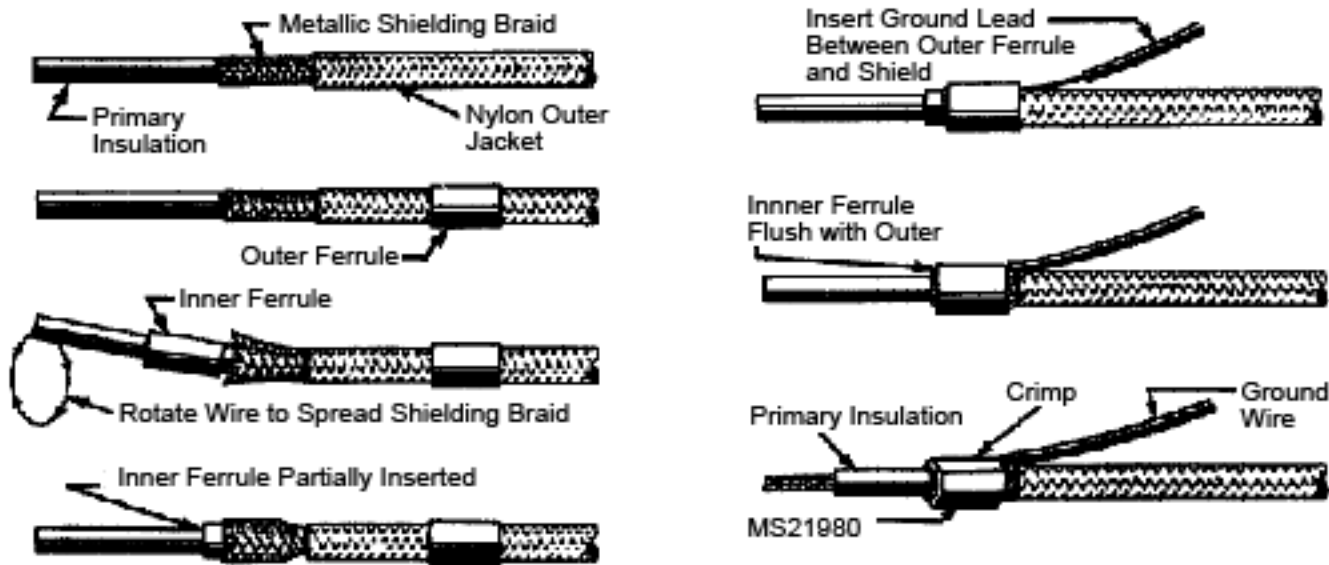

Figure 28 Shield Termination (Two Part Sleeve, Crimped-On)
56. The metallic braid of shielded cable can also be terminated with a two-piece grounding sheath connector, by crimping it, with or without a ground wire as required, between two ferrules (or sleeves) (see Figure 28). Use the standard MS inner and outer ferrules listed in Table 7, 8, 9 and the tools listed in the Tables. The procedure is as follows:
- i. If required, insert stripped ground wire under outer sleeve and slide both forward over braid and inner sleeve until only 1/32 to 1/16 inch of inner sleeve and braid protrude (see Figure 28). Ground wire may extend from front or back of outer sleeve as required.